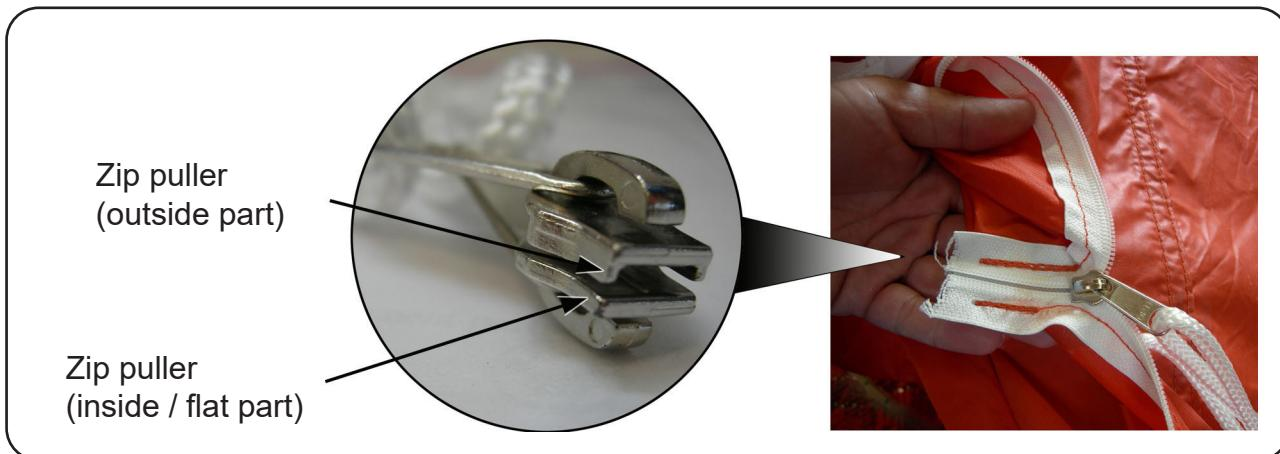

FIGURE 409
Refer to FIGURE 409.
- 4.1.11 Align the new zip puller evenly onto both zips and pull the zip closed for a distance of 75 mm (3"). Refer to FIGURE 409.